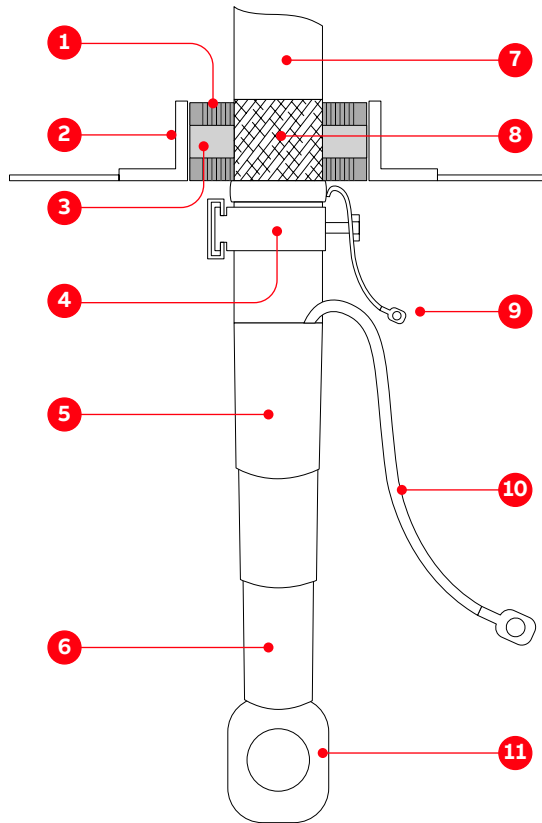

Figure 7-7: Preparing power cables for sealing modules
- Prepare cables with an outer cable screen or shield for EMC bonding with the metal enclosure of the cabinet as illustrated in Fig. 7-7.